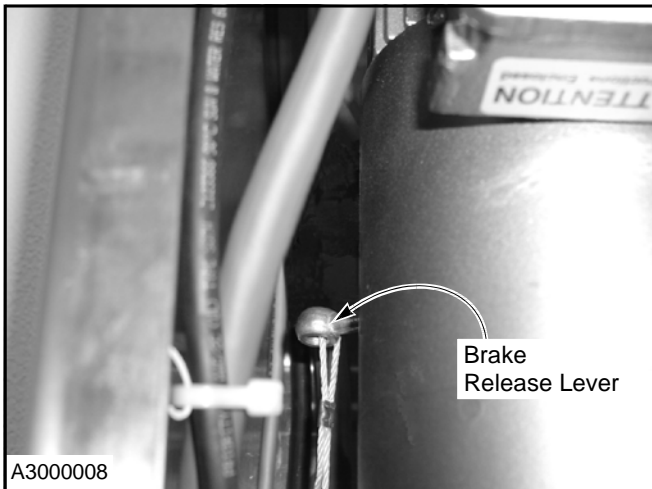

Figure 23
1. Make sure the brake release lever on the motor/brake assembly is in the engaged position — slack in the cable with the lever fully released. (See Figure 23.)